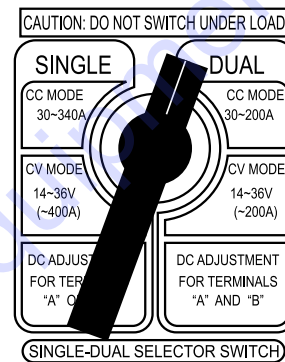

Figure 36. Single-Dual Selector Switch (Dual Position)
- Place the welding mode selector switch (Figure 36) in the **dual** mode position.